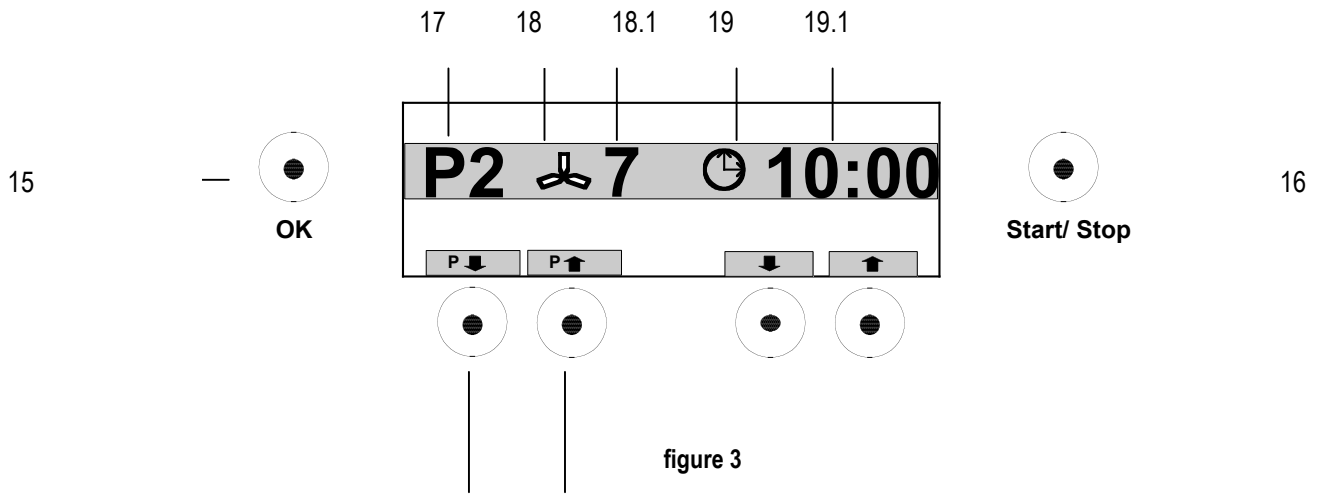
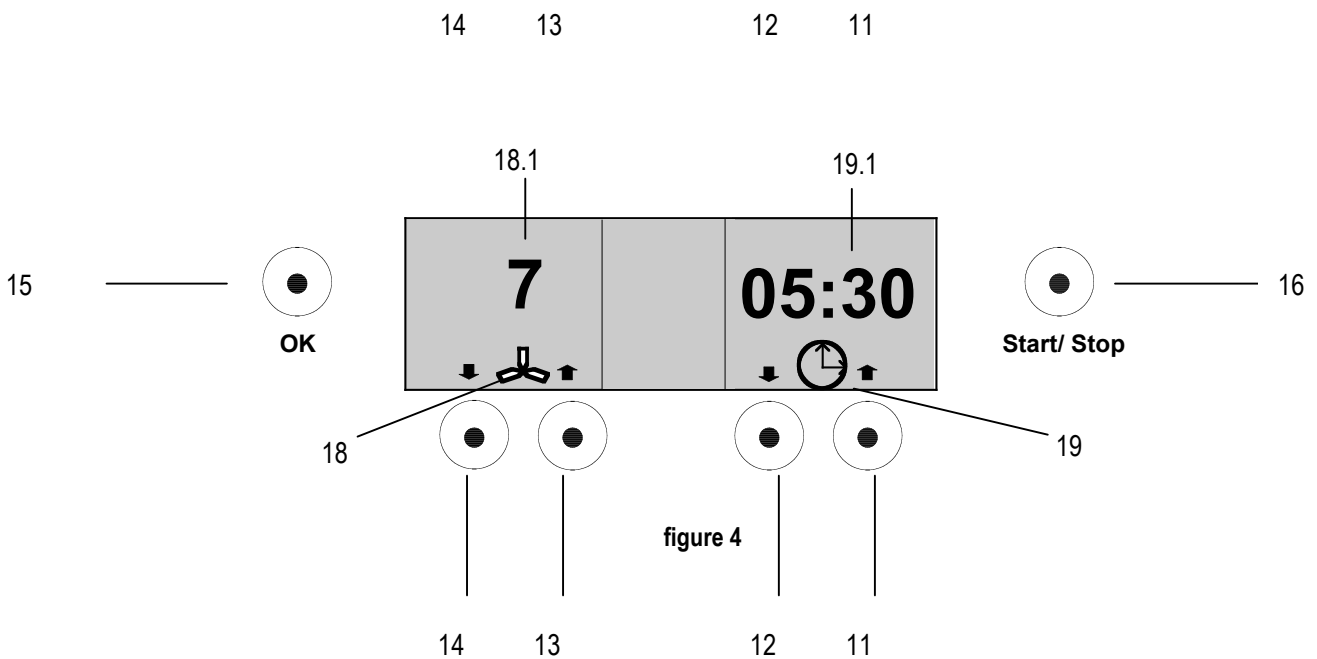

figure 3
figure 4
- 13 Increasing of program number (figure 3) or fan speed level (figure 4)
- 14 Decreasing of program number (figure 3) or fan speed level (figure 4)
- 17 Display of program number (figure 4)